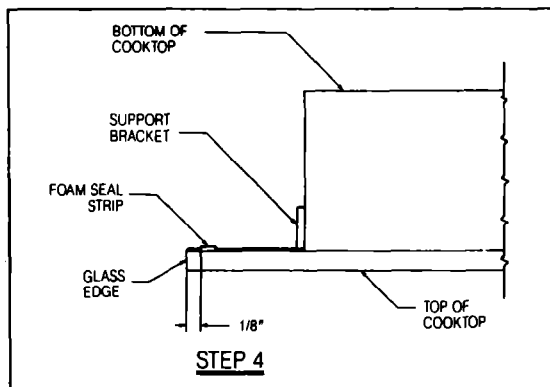

**Fig. 4**
**STEP 3:** If your cutout is less than 19-1/2" front to back proceed with Step 4. If your cutout is greater than 19-1/2" front to back the cooktop must be centered to hold the cooktop/countertop alignment. To center screw the four 1-1/4" centering screws into the two front and two back mounting holes by hand. See Figure 4. Turning the screws adjusts their length to fill the space between the front or back of the cooktop and the countertop cutout. To adjust the back centering screws measure the distance - Dim. "D" - between the back of the cutout and the cooktop outline. See Figure 4. Adjust the length of the back centering screws until the distance between the screw head and the edge of the cooktop equals Dim. "D". Do not adjust front centering screws at this time.